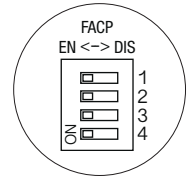

Fig. 3
1. Mount ACMS8/ACMS8CB in the desired location/enclosure. When mounting ACMS8/ACMS8CB alone, use female/female spacers (provided). When mounting with optional VR6 voltage regulator, use female/female spacers (provided) between ACMS8/ACMS8CB and VR6 (Fig. 3, pg. 4). Attach ACMS8/ACMS8CB to spacers utilizing 5/16" pan head screws (provided).